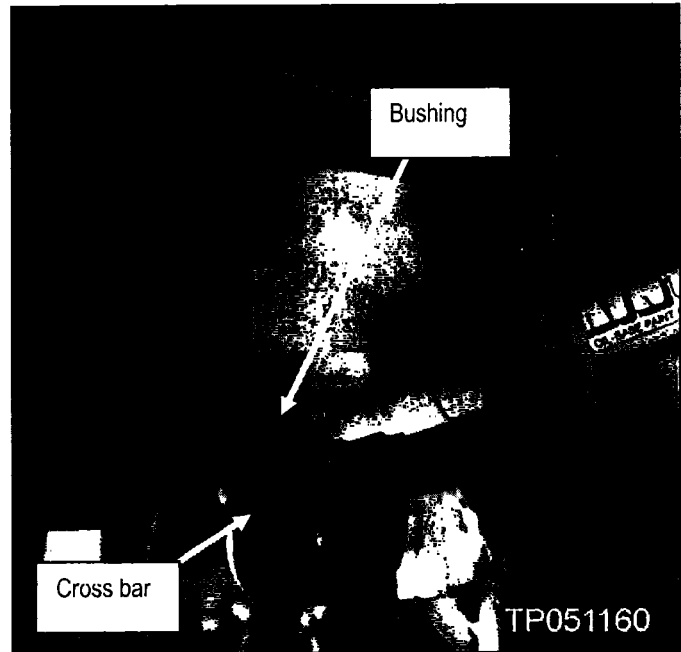

Figure 61
26. Place an index mark across the bushing and cross bar for proper re-assembly (see Figure 61).